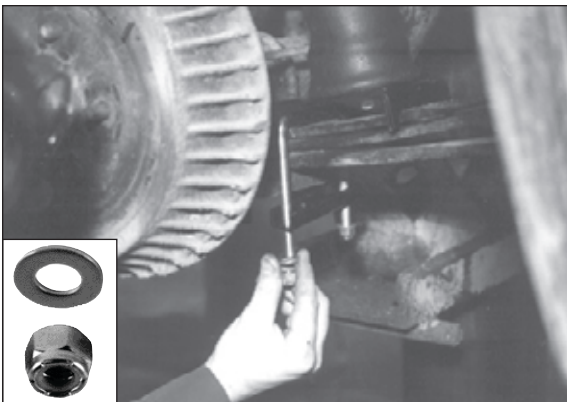

Figure 10
2. Secure the lower bracket to the leaf spring using U-bolt (E), clamp bar (F), flat washers (H), and nylock nuts (G). See Figure 10. Tighten to 16 ft-lbs.